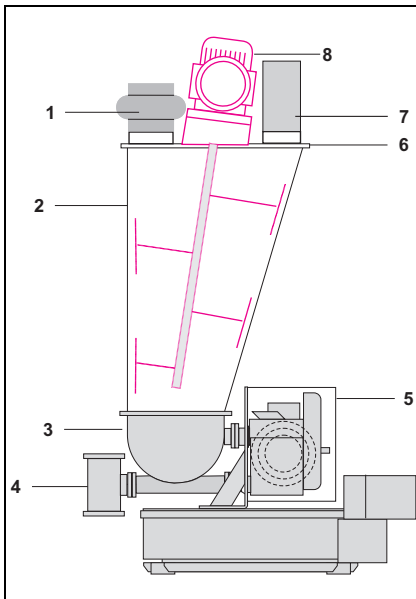

Fig. 2.4 Safety devices
- At the agitator hopper (see Fig. 2.4/3)
- At the outlet tube (see Fig. 2.4/4)
- At the hopper (see Fig. 2.4/2)
- At the vertical agitator (see Fig. 2.4/8)
- At the drive unit cover (see Fig. 2.4/5)